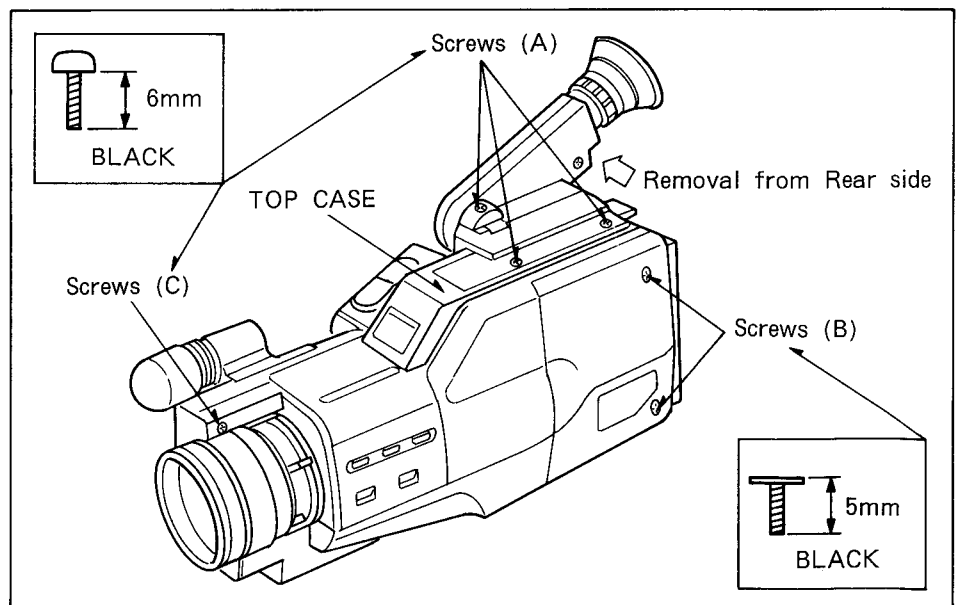

Fig. D2
- (1) Remove 2 screws (B).
- (2) Slide the cassette cover to as shown in Fig.D2.
- (1) Remove screw (C) as shown in Fig. D2 and 4 screws (D).
- (2) Disconnect the connector P001, P002 and FP001 on camera operation C.B.A.
- (3) Remove the side case (R).